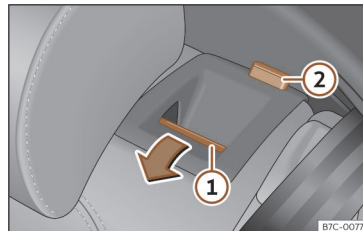

Fig. 75 Rear seat: folding the backrest.
- Press the unlock button >>> Fig. 75 ① forwards and at the same time fold the backrest down. The rear seat backrest is not engaged when the red marking of the button ② is visible.